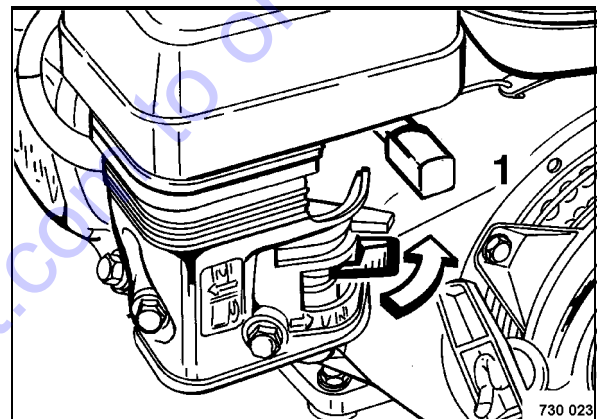

Fig. 48
- Open fuel cock 1 (Fig. 48) by turning in direction of arrow.